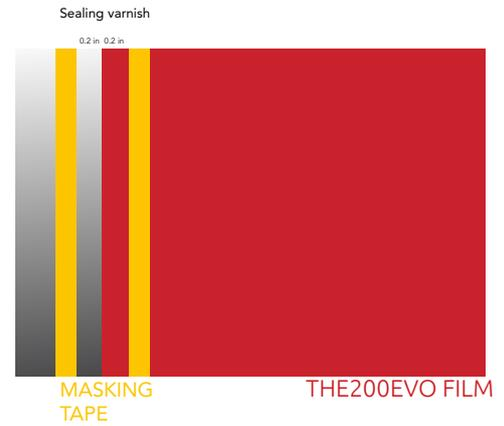

Figure 09
- 1 to THE200EVO at 5 mm (0.2 in.) from its edge. (FIG. 09)